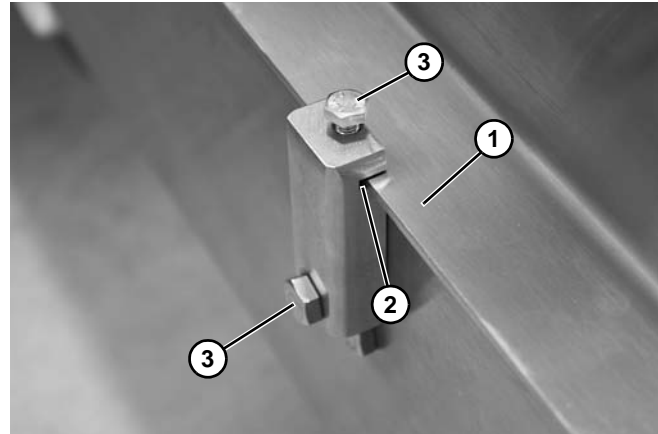

Figure 36
3. Install guide (**Figure 36, item 1**) into the slot (**Figure 36, item 2**) of the mounting block and tighten screws (**Figure 36, item 3**).